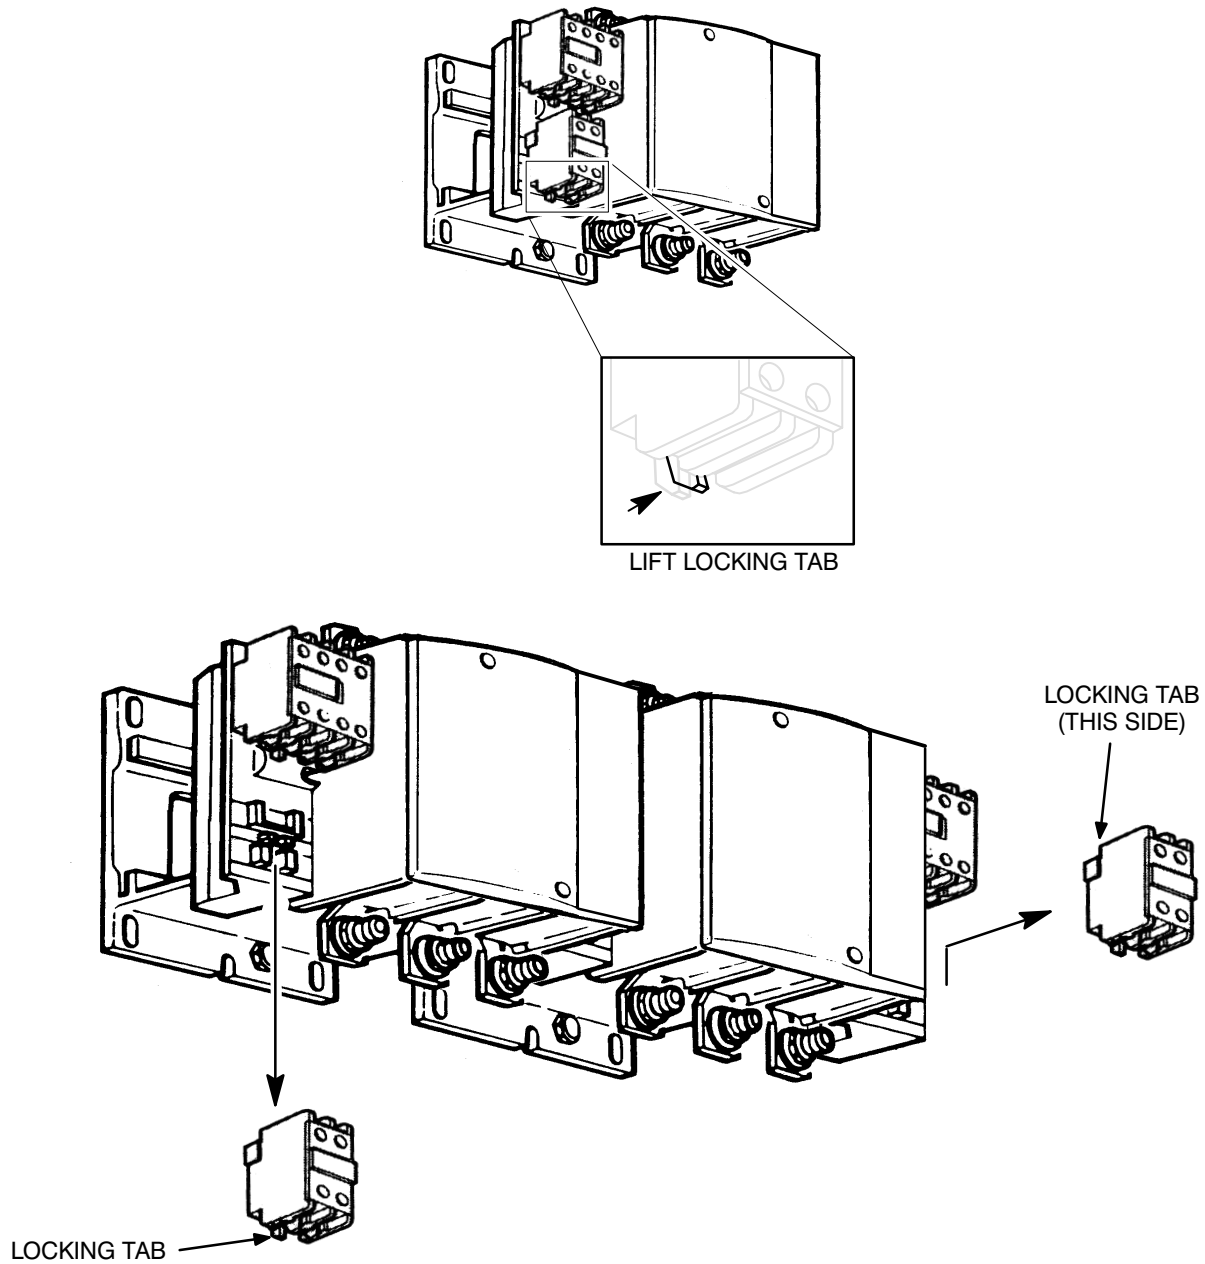

FIGURE 2. CONTACT ASSEMBLY REMOVAL
4. Lift the locking tab on the auxiliary contact assemblies, locking tab locations shown in Figure 2. Slide the auxiliary contact assemblies out as shown in Figure 2.